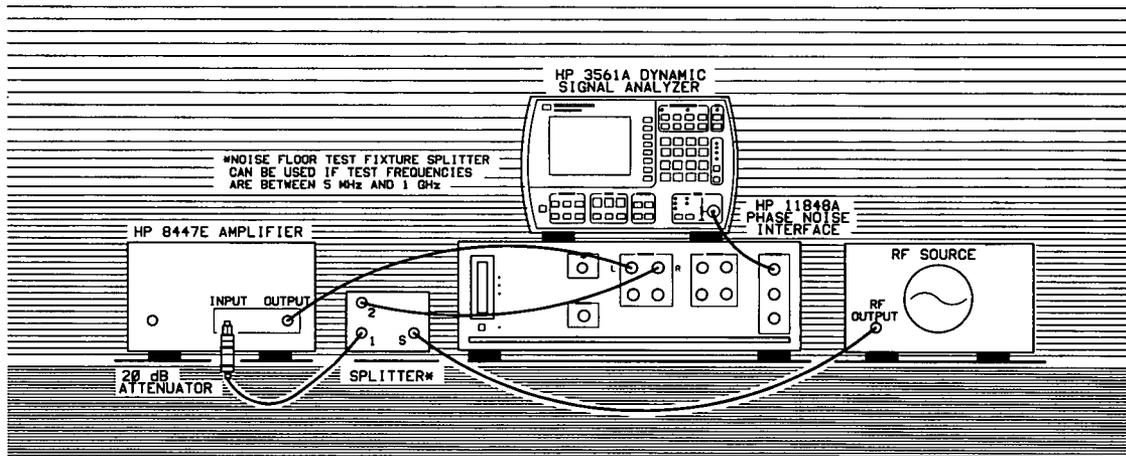

Figure 5-1. Setup diagram for the HP 8447E Amplifier Measurement Example.
3. When the Connect Diagram appears on the HP 3048A's display, connect the signal paths as shown in Figure 5-1. Figure 5-1 differs from the Connect Diagram shown on the HP 3048A's display. (The setup considerations provided in Table 5-3 will help you ensure that your measurement results are valid.)